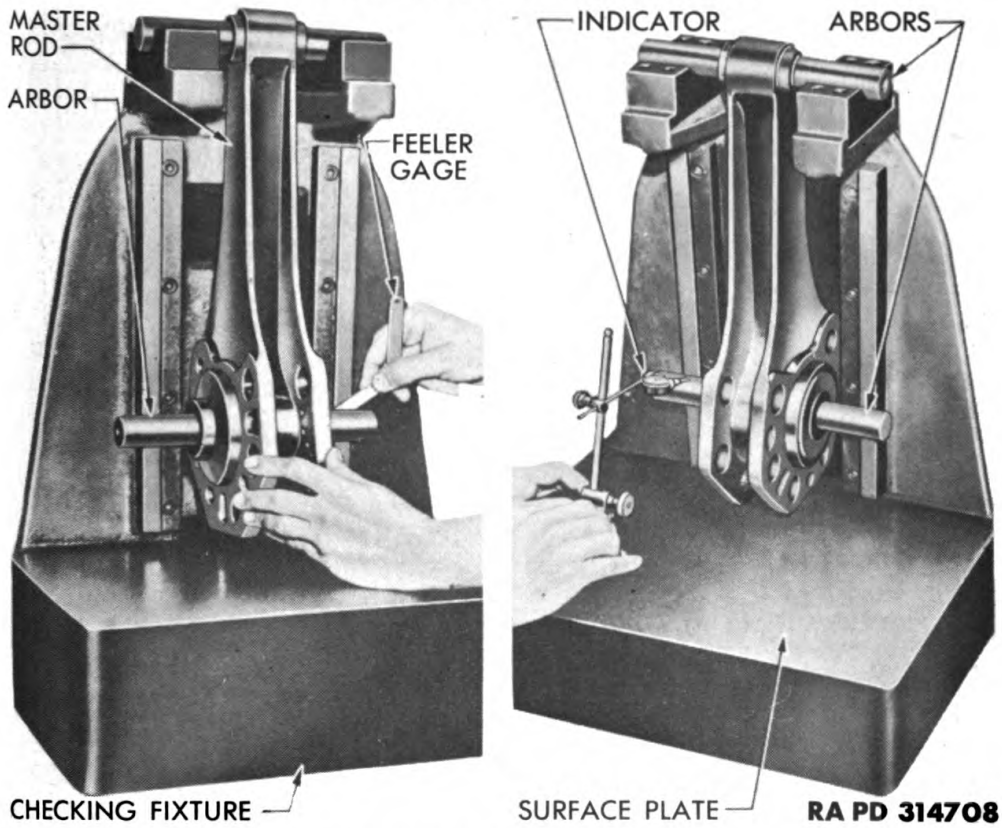

Figure 130 – Checking Master Rod Twist
(6) **CHECK MASTER ROD TWIST.** Check master rod for alinement, and for twist in relation to the crankpin (fig. 130), using alinement stand (41-S-4977) and the proper sized alining bars (par. 92), a dial indicator, and feeler gage set. Insert arbor in each knuckle pin hole in master rod, one at a time. Check alinement of each hole. If mis-alinement, twist of master rod, or misalinement of knuckle pin holes exceeds 0.004 inch for every 6 inches, in any instance, replace rod. Do not attempt to straighten master or articulated rods.